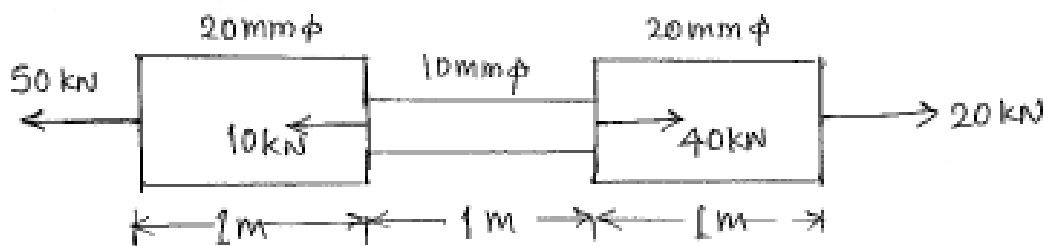

Figure No. 2
- a) Determine the total elongation of the bar shown in figure No. 2. Take $E = 2 \times 10^5 \text{ N/mm}^2$.